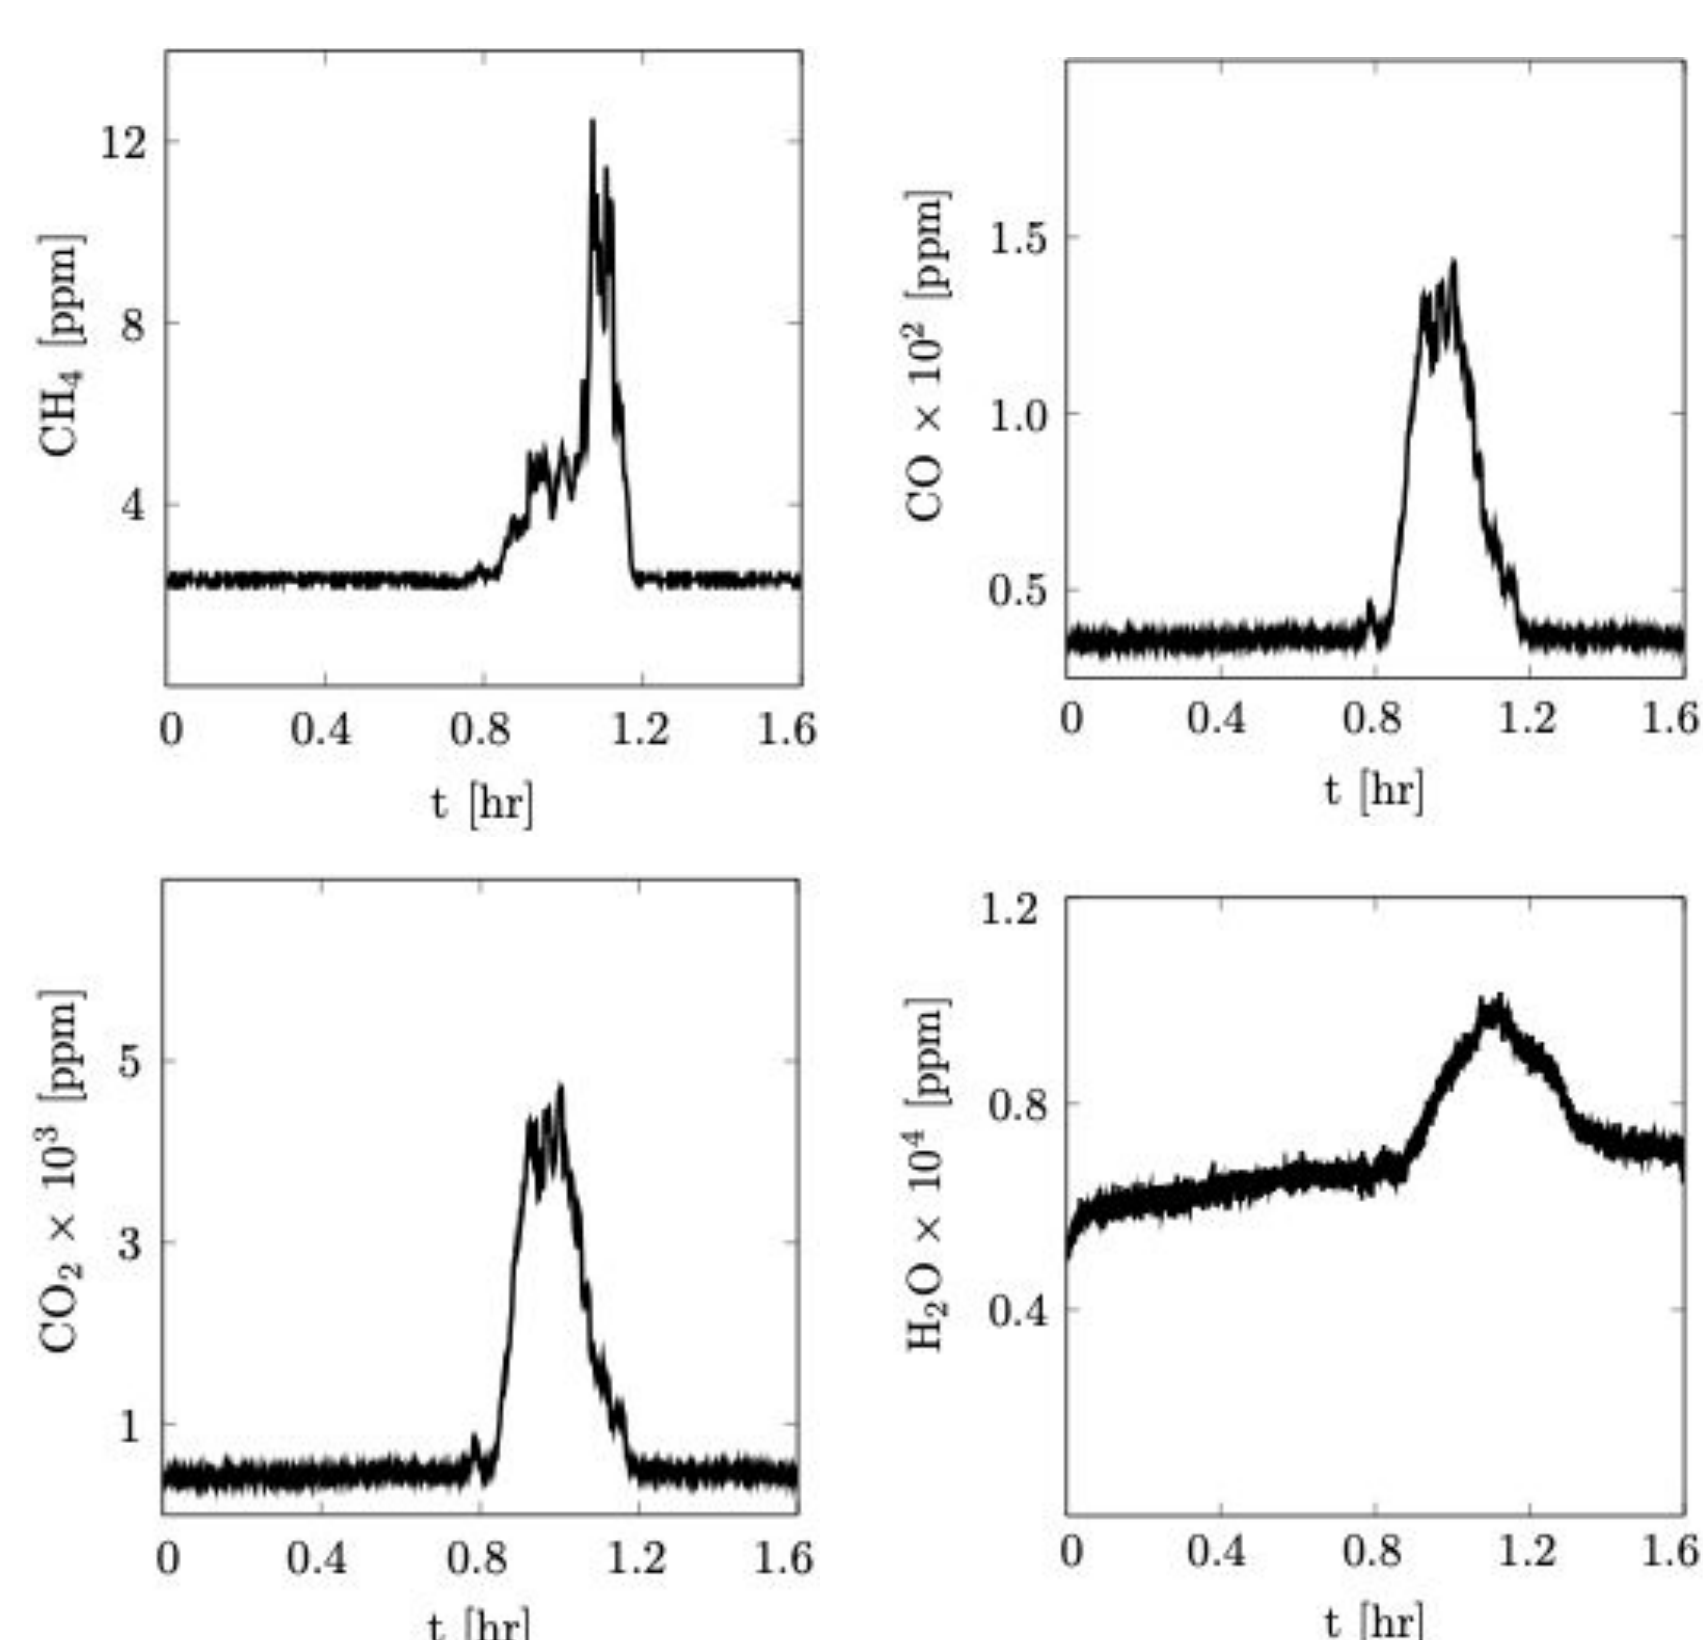

Figure 3: The concentration of gaseous species measuring via a gas analyser.
- Figure 3 illustrates the gaseous species' concentration resulting from oak combustion. The flame conditions indicated a sooty flame, and the CO₂/CO ratio highlights the incomplete combustion process.